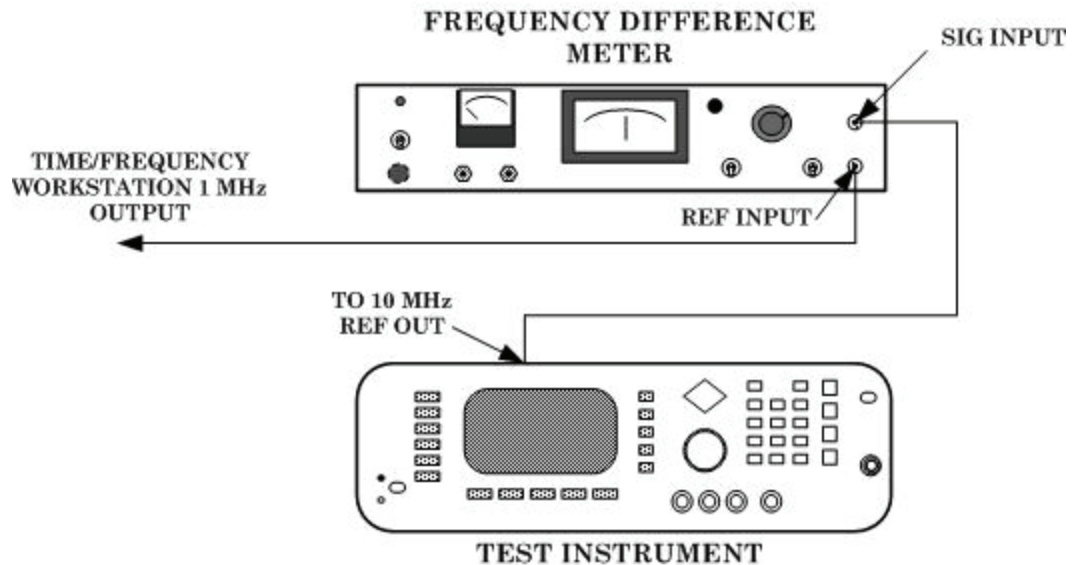

Figure 1. Time base verification connection.
d. Connect equipment as shown in figure 1.